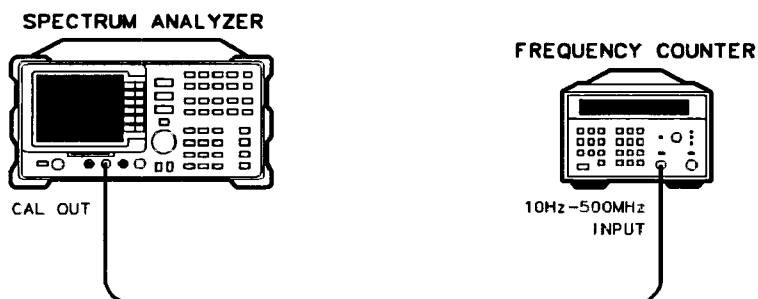

Figure 3-5. Calibrator Frequency Accuracy Test Setup
6. Connect the analyzer's **CAL OUTPUT** to the input of the frequency counter. (*Option 001 only: Use the 75Ω BNC cable. See Figure 3-5.*)